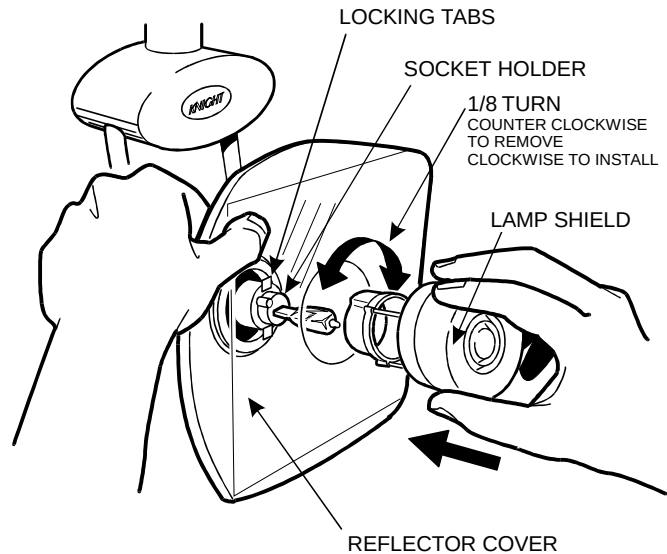

Figure 12
1. Remove the lamp shield and reflector cover by pushing in and turning the lamp shield **counter clockwise** (See Figure 12).
4. Place the reflector cover in position over the reflector (See Figure 12). Insert the lamp shield through the hole in the reflector cover and onto the socket holder (make sure to align the locking tabs). Push in and turn the lamp shield approximately 1/8-turn **clockwise** to lock in place.